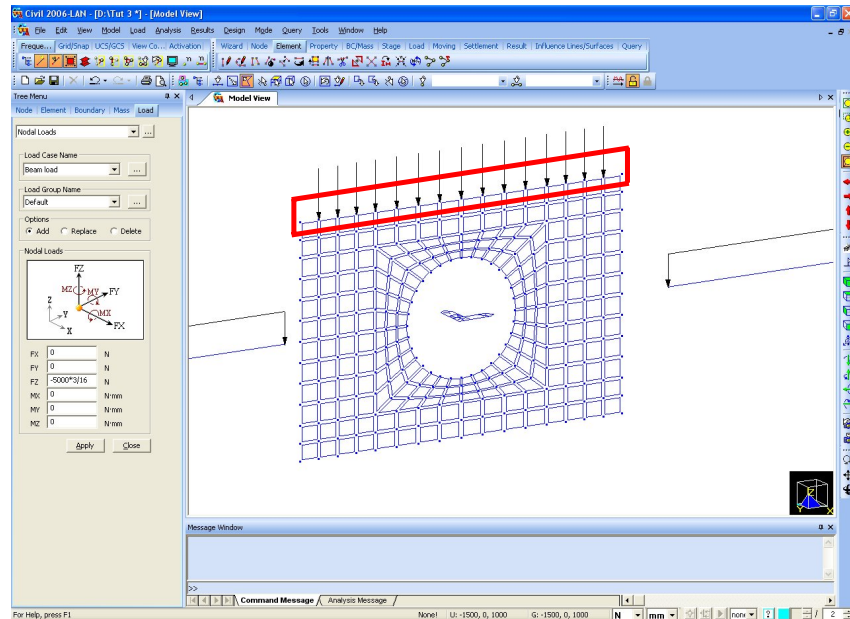

Figure 3.19 Concentrated Loads on the Opening Detail Model
8. Select the nodes where concentrated loads are applied as shown in Fig.3.19—.